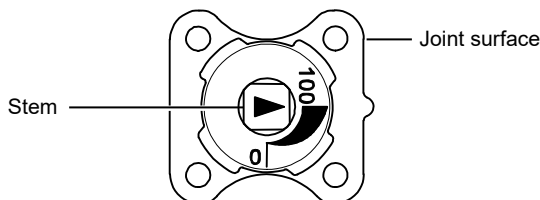

Figure 12. Valve stem pointing at 100 % (fully open ) position
- 3) Adjust the stem to '100'. (See Fig. 12.)